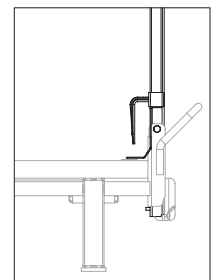

Fig. A13.01d
3. Push guardrail (32.1) downwards. → Guardrail is now secured. (Fig. A13.01d)